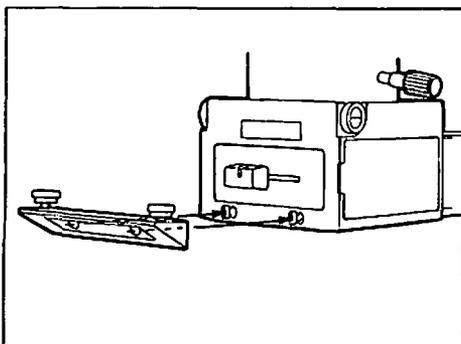

Fig. 9
6 Clamping the Breath Shield Mounting Bracket (Fig. 9)
7 Mounting the Universal Vertical Illuminator and Lamp Housing (Figs. 9, 10)
3. After mounting of the lamp housing is completed, adjust the universal vertical illuminator so that it is parallel with the arm and completely tighten the illuminator clamping screw ①. (Figs. 9, 10)